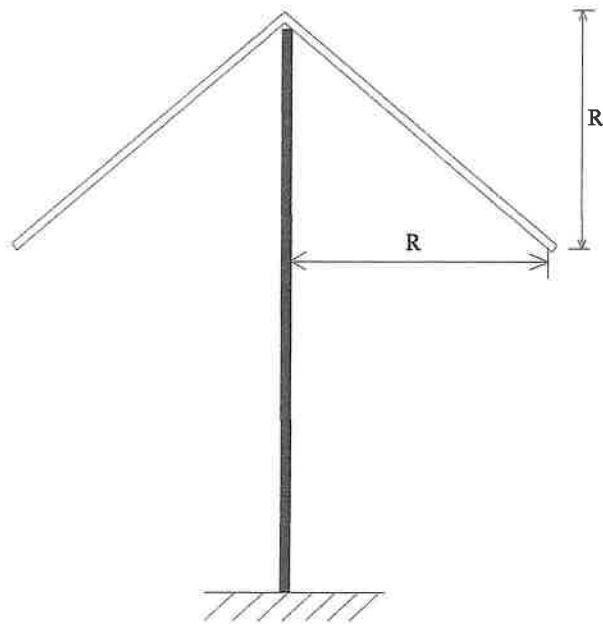

Figure Q2
c) A conical shell made of thin aluminum sheets is proposed to be used as a roof of a cafeteria as shown in Figure Q2. The shell is subjected to its self-weight of " p " per unit surface area.